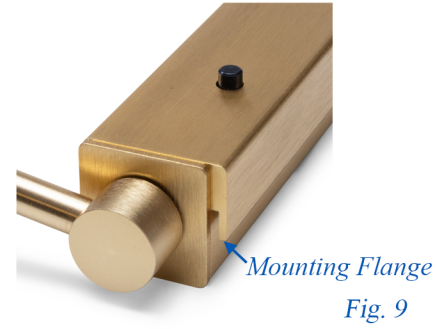
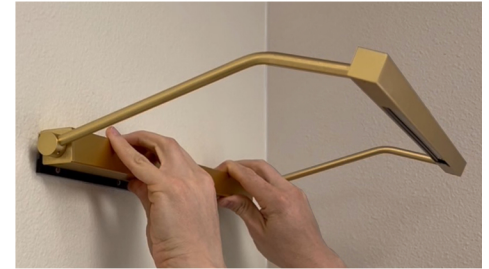

Fig. 9
Fig. 10
- Simply lower the fixture onto the Mounting Bracket(s), making sure that the integrated Mounting Flange (*Fig. 9*) engages with the Bracket(s). Confirm that the Flange and Bracket(s) are interlocked prior to releasing hold of the fixture. Angling the front of the fixture slightly upwards can assist with engagement during the mounting process. *Fig. 10*